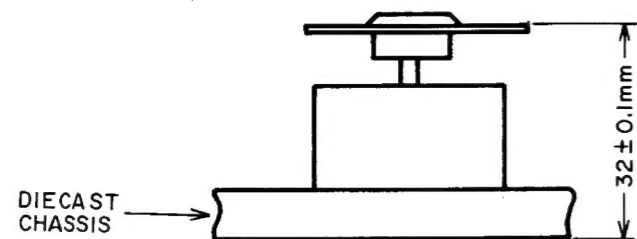

Fig. 5-2
- 6) Put the TURN TABLE on to the SPINDLE MOTOR shaft and adjust so that the height of the turn table from the chassis becomes 32 ± 0.1 mm as shown in Fig 5-2.